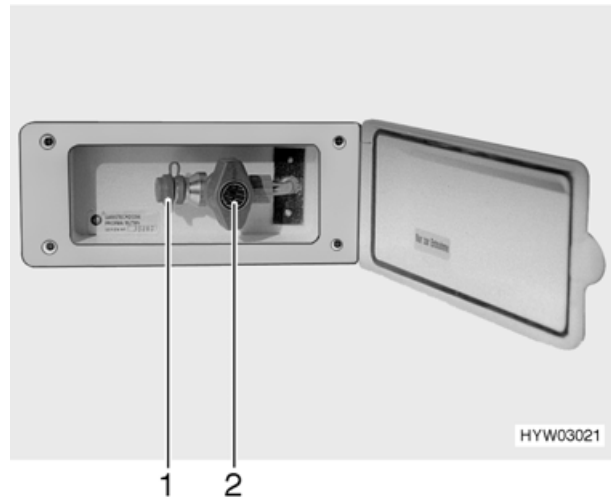

Fig. 57 External gas connection, stopcock closed
- ▶ If the external gas connection is not in use, always close the stopcock (Fig. 57,2).
- ▶ Once you have made the connection and opened the stopcock, make sure that no gas is escaping at the connection point (Fig. 57,1). If there is a leak in the external gas connection, gas will escape into the open air. Immediately close the stopcock and the regulator tap on the gas bottle. Have the external gas connection checked by an authorised specialist workshop.
The external gas connection (Fig. 57) is located at the front right, next to the gas bottle compartment.